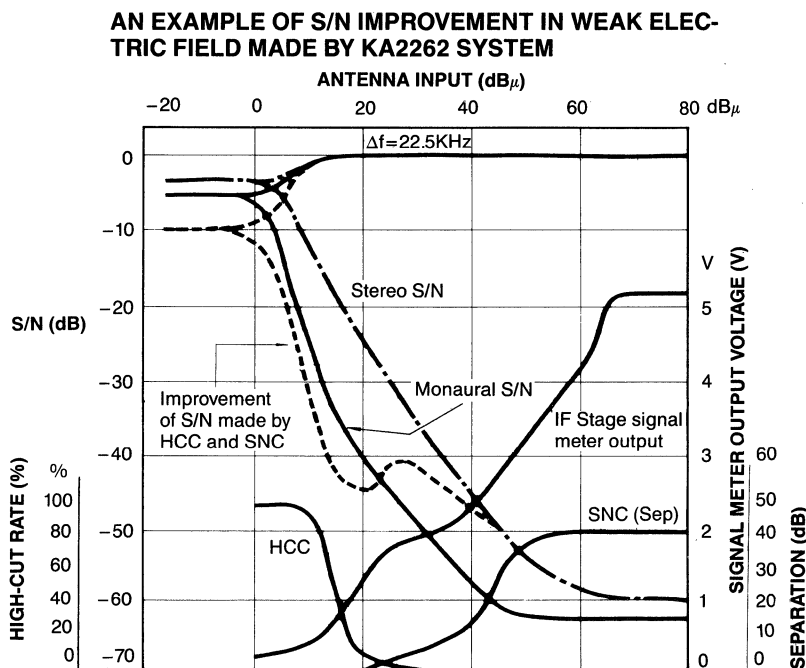
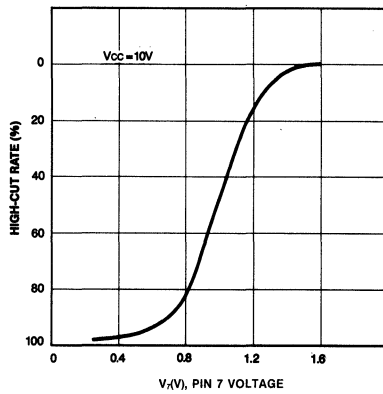

Fig. 3
Fig. 10
The relationships (HCC characteristics) between Pin 7 applied voltage and high-cut rate (%) are shown in Fig. 10. When the characteristics of IF meter output voltage and the S/N-ratio characteristics of Area B (shown in Fig. 4) are obtained in addition to Fig. 10, the characteristics of S/N-ratio improvement which is implemented by HCC can be drawn.
The output of meter of IF amplifier IC used for quadrature detection is usually the one shown in Fig. 4. (Fig. 3 shows the data of KA22441). Thus, the HCC characteristics (Fig. 10) are set so that the Area B may be ameliorated when the output mentioned above is directly connected with the HCC Terminal (Pin 7) of KA2262.
In Fig. 3, is shown an example of S/N-ratio characteristics caused from the antenna input when SNC and HCC are connected with the IF stage through the outer circuit shown below.
5. Improvement of S/N Ratio in Area C shown in Fig. 3
In Area C shown in Fig. 3, the S/N ratio is further worsened. Its improvement should be performed by the IF muting. The KA22441 can be enumerated as an IC which can vary this IF muting linearly. The S/N-ratio improvement effect of KA2262 can further be enhanced if KA2262 is used together with KA22441.